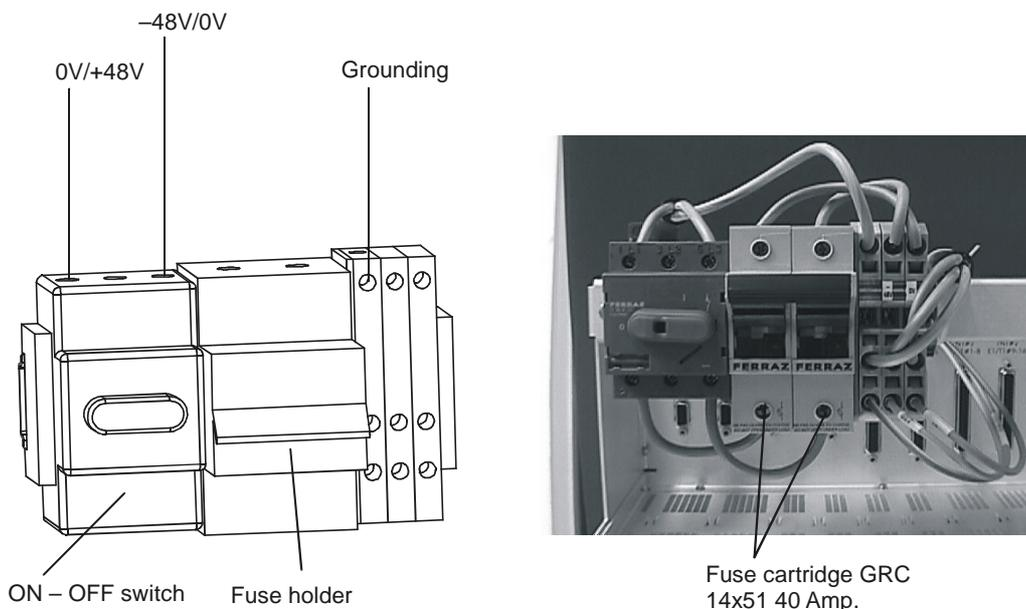

Figure 40 – DBS chassis power supply
- For the power supply block diagram, refer to *Figure 40 – DBS chassis power supply*: